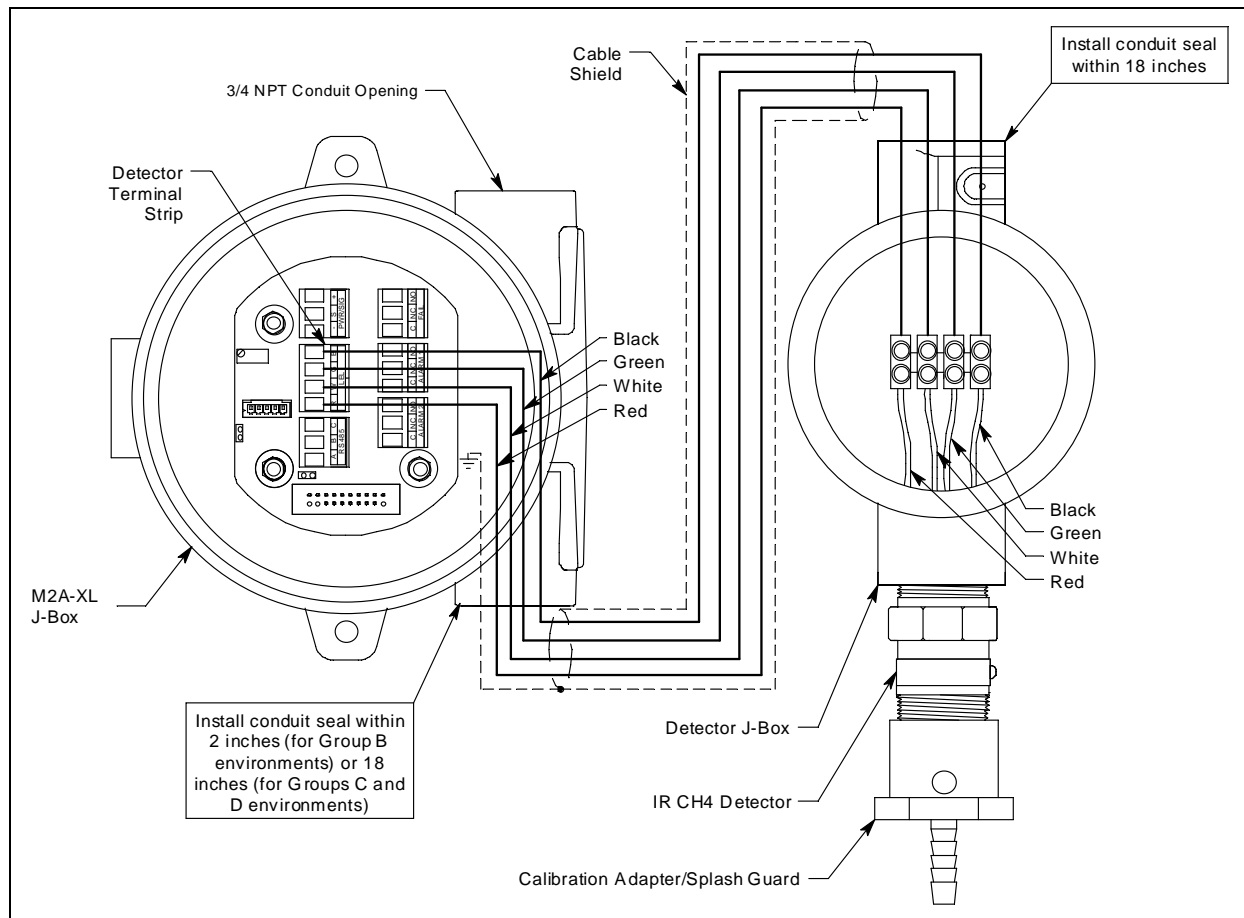
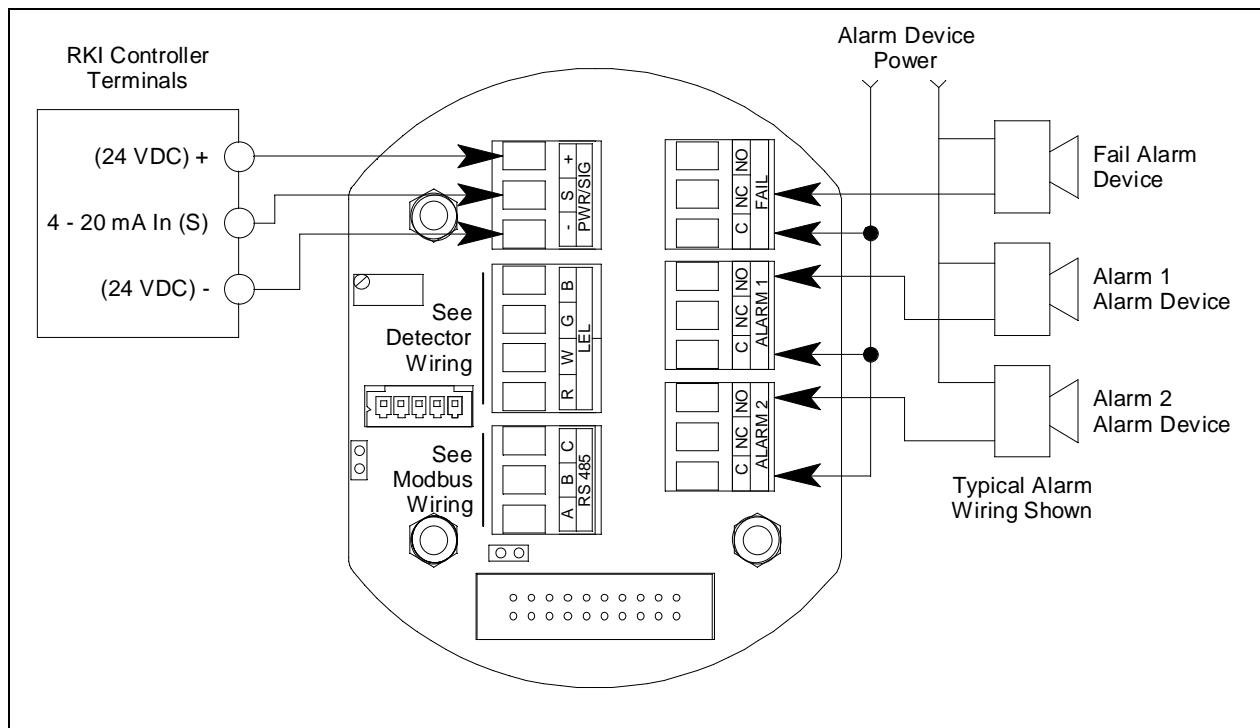

Figure 7: Wiring the Detector to the M2A-XL
Figure 8: Wiring the M2A-XL Junction Box to a Controller and Alarm Devices
7. To maintain the explosion proof classification of the junction boxes, conduit seals must be installed as shown in Figure 7. Adhere to your local electrical code when installing the conduit seal.
13. Pull out the detector terminal strip and connect the four wires to the terminal strip as follows (see Figure 7).
1. To maintain the explosion proof classification of the M2A-XL junction box, a conduit seal must be used as shown in Figure 8 in addition to those shown in Figure 7. Adhere to your local electrical code when installing the conduit seal.
See Figure 8 below for field wiring connections to the M2A-XL.